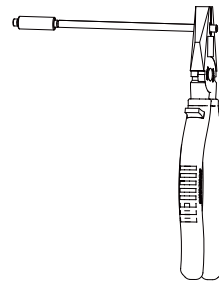

Fig. 4
- Note 1: In case the trip rod is too long, loosen the locking screw to remove the trip rod. Cut off the notched section(1 inch) (see Fig. 4), and install the trip rod again by repeating step 2.3.